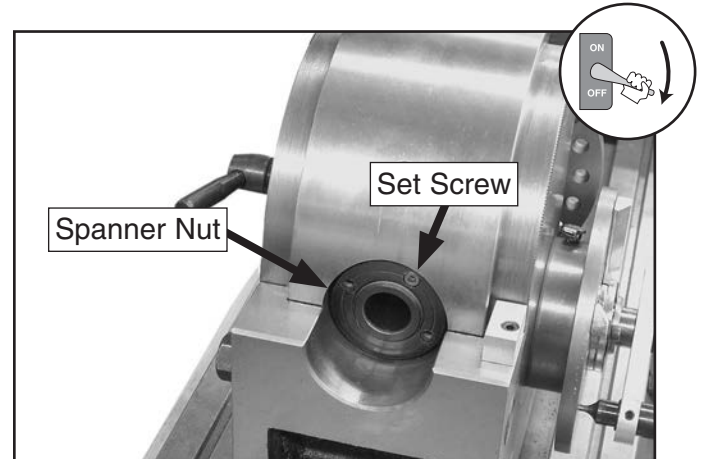

Figure 34. Spanner nut and set screw.
4. Loosen the set screw on the spanner nut shown in **Figure 34**.